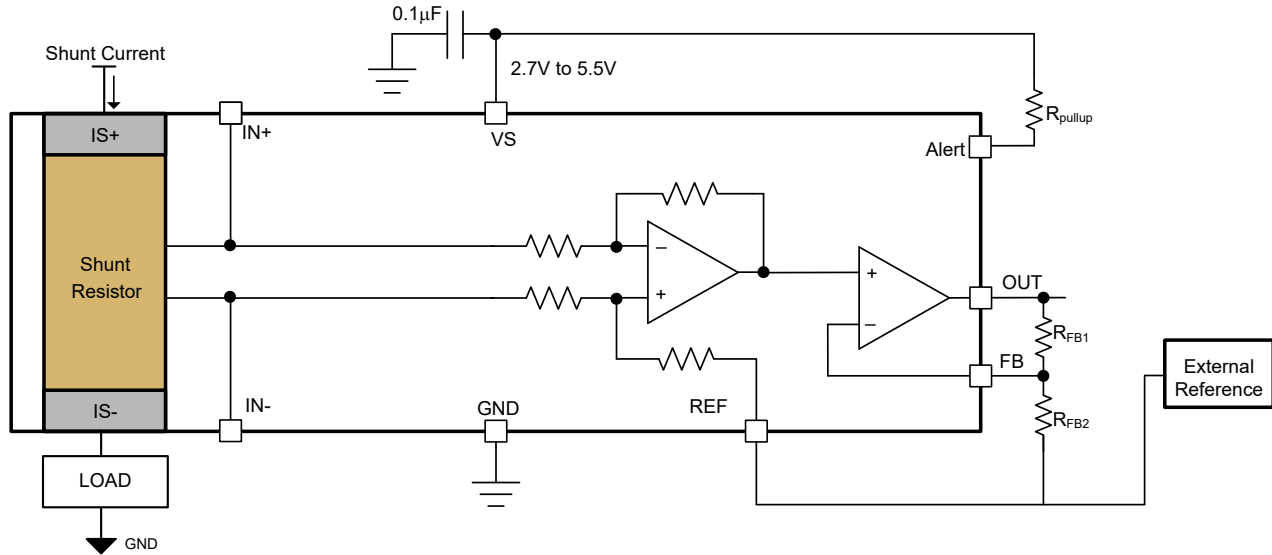

図 6-7. Adjustable Gain Setting With External Resistor Divider
The INA791x features adjustable gain with two external resistor network. The default gain is 20mV/A, and with added external adjustable gain resistor network, total gain (G) can range up to 400mV/A. 図 6-7 shows two external resistors R_{FB1} and R_{FB2} configured for added external gain. 式 2 can be used for calculating external adjustable gain and 式 3 shows the total gain of the system with external adjustable gain. The REF pin and one end of resistor R_{FB2} is connected to external reference based on needed voltage at OUT pin as described in Adjusting the Output With the Reference Pin.